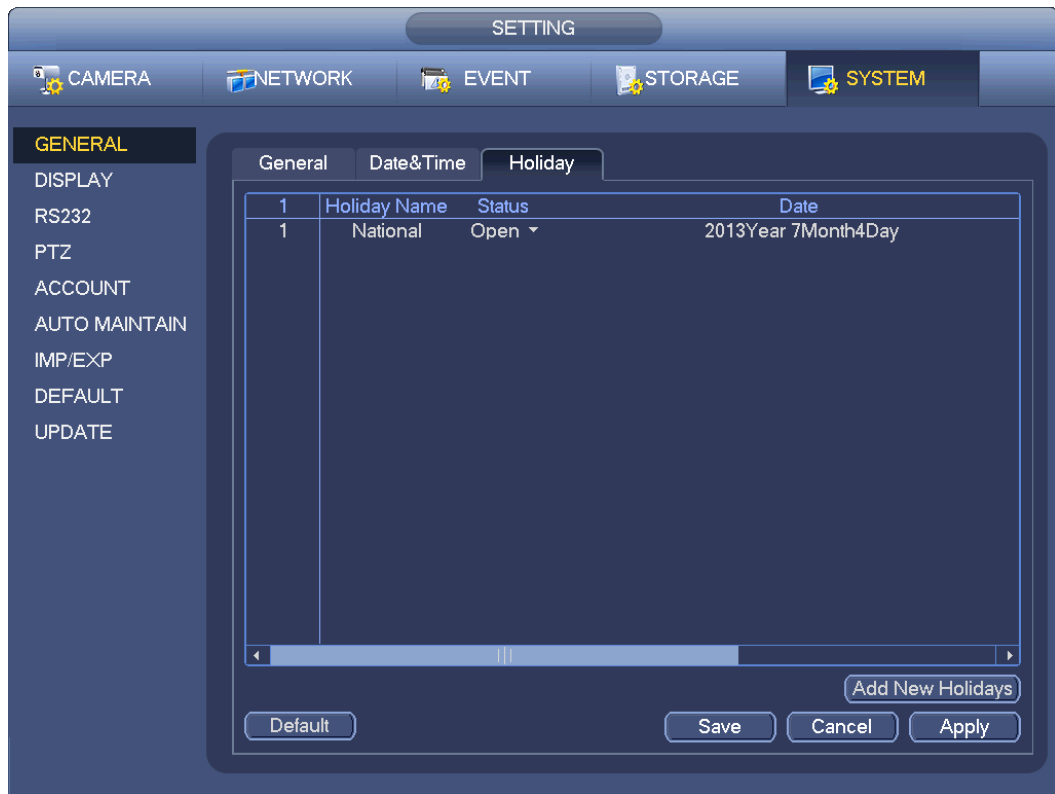

Figure 4-76
a) From Mani menu->Setting->System->General, you can go to the following interface. See Figure 4-76.